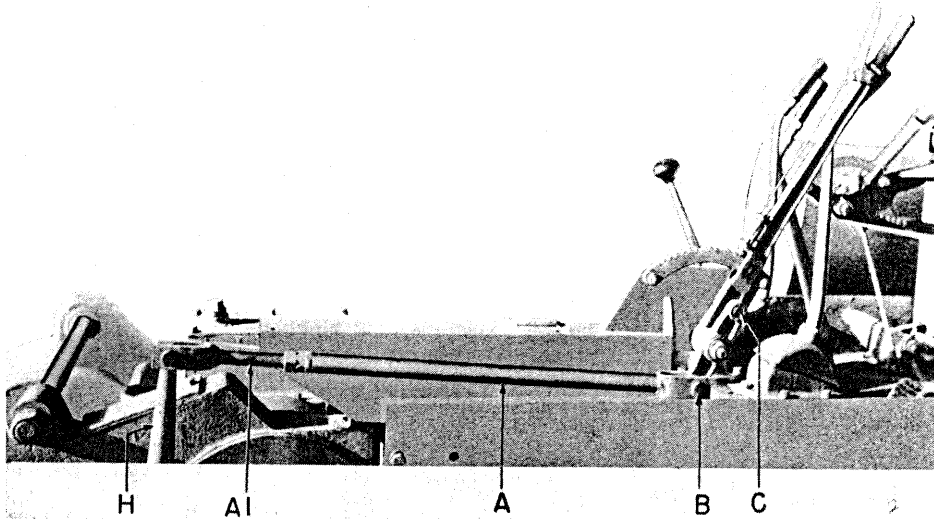
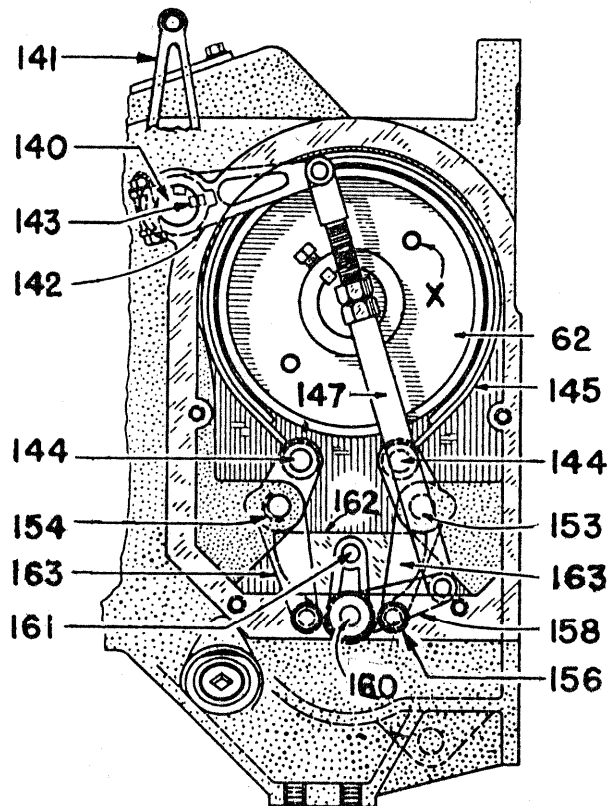

Figure 2 (Underwinding)
Figure 5A
1. The brake link "A" should be connected to the **LOWER HOLE** in the handlever as at "B," Figure 2, page 9, when the **DRUM IS UNDERWINDING**.
A new brake lining will require several adjustments until the lining becomes glazed. Close brake adjustment may then be obtained by means of the threaded rod end "A1", Figures 2 and 3. Loosen jam nut and remove rod end pin connecting link to brake lever. Screw the threaded end of link in until hand lever comes to proper position on quadrant, then tighten jam nut. When this adjustment has been exhausted, additional adjustment is provided on a vertical link within the brake compartment on the right hand side frame as shown in Figure 5A, item 147, on page 13.
Remove the brake compartment cover plate and gasket. Remove rod end pins in link (147), Figure 5A. Loosen jam nut, and if overwinding drum, **SHORTEN** link (147); if underwinding drum, **LENGTHEN** link (147). When link (147) is altered in length, it should be changed sufficiently to allow the outside adjustment to be restored to its original position when the lining was new.
Refer to Figure 5A.